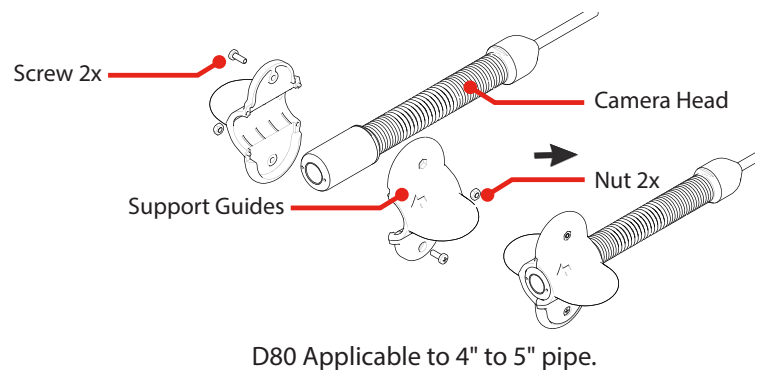

FIG. 10
2. **Install 80 support guides (Figure 10).** Mount the 80 support guide onto the stainless steel camera head. Then tighten the screw with a screwdriver.